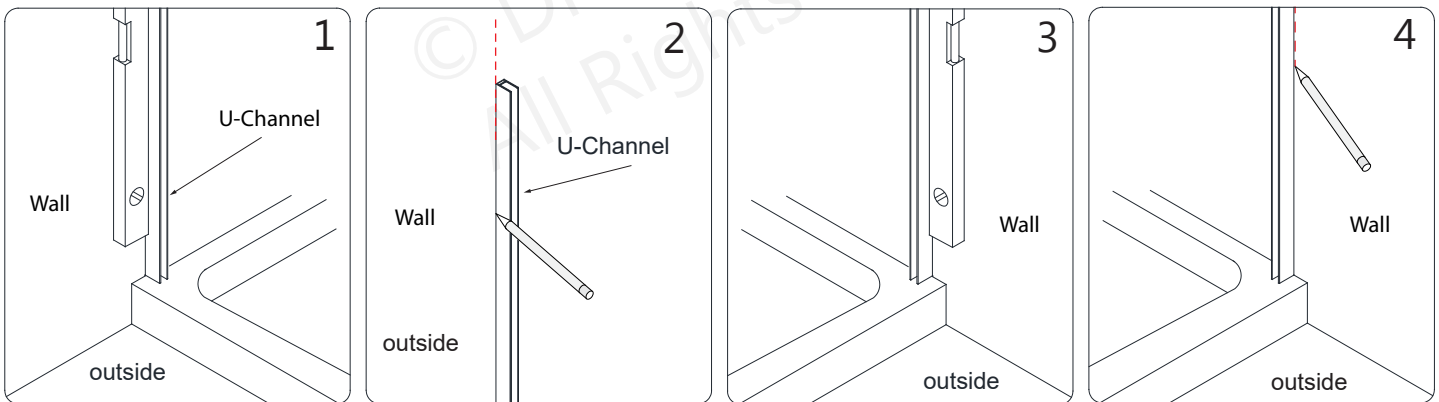

Fig 2
2. Make sure both **Stainless Steel U-Channels (#11)** are absolutely plumb. Mark the position of the **Stainless Steel U-Channels (#11)** on both walls. (**Fig 2**)